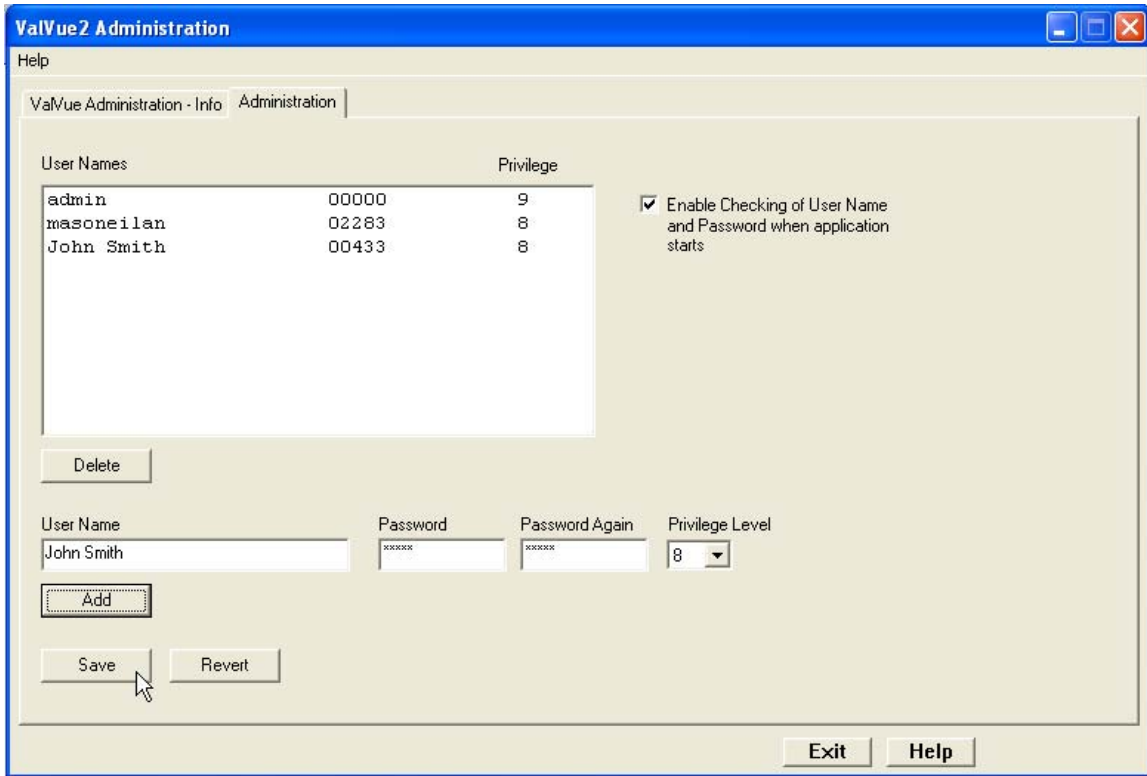

Figure 10 Saving New User
6. Select **Save** and select **Exit** (Figure 10).